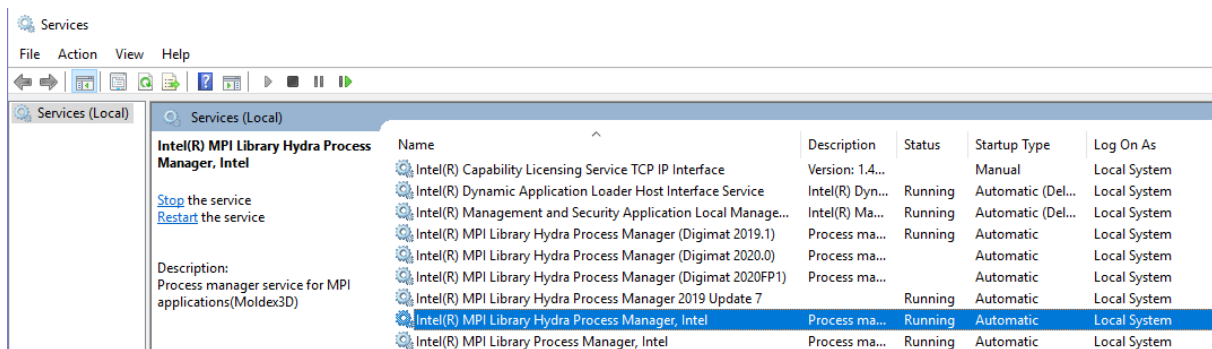

Figure I.2.32: Intel-MPI hydra service.
- Find the directory of Intel-MPI hydra service to be removed. This directory can be found by clicking on properties of the existing service (e.g., "C:\Program Files\Intel MPI 2018"), see Figures I.2.32 and I.2.33. The name of the executable associated to the service ("hydra_service.exe") can also be found in the properties of the service. Type in the command prompt: